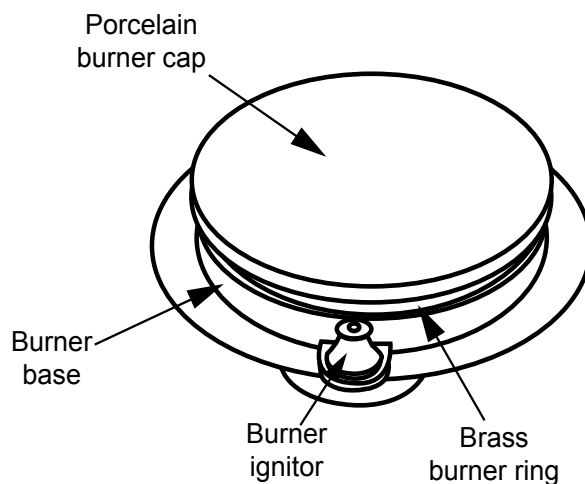

Figure 3: Fully Assembled Burner
3. Set the burner cap on the top of each burner ring (see Figure 3). Be sure to match the correct size. The flat surface faces upward.